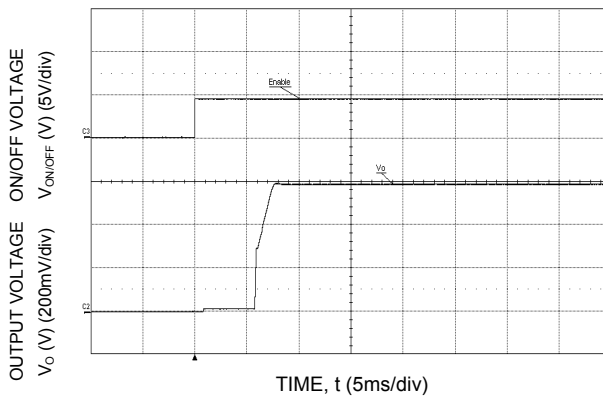

Figure 5. Typical Start-up Using On/Off Voltage ( $I_o = I_{o,max}$ ,  $V_{in}=12V$ ,  $C_{ext}= 22\mu F$ ).
To reduce the output ripple and improve the dynamic response to a step load change, additional capacitance at the output can be used. Low ESR ceramic and polymer are recommended to improve the dynamic response of the module. Figure 5 provides output ripple information for different external capacitance values at various  $V_O$  and for a load current of 2A. For stable operation of the module, limit the capacitance to less than the maximum output capacitance as specified in the electrical specification table. Optimal performance of the module can be achieved by using the Tunable Loop™ feature described later in this data sheet.
**Figure 5. Output ripple voltage for various output voltages with external 1x10  $\mu$ F, 1x47  $\mu$ F, 2x47  $\mu$ F or 4x47  $\mu$ F ceramic capacitors at the output (2A load). Input voltage is 12V.**